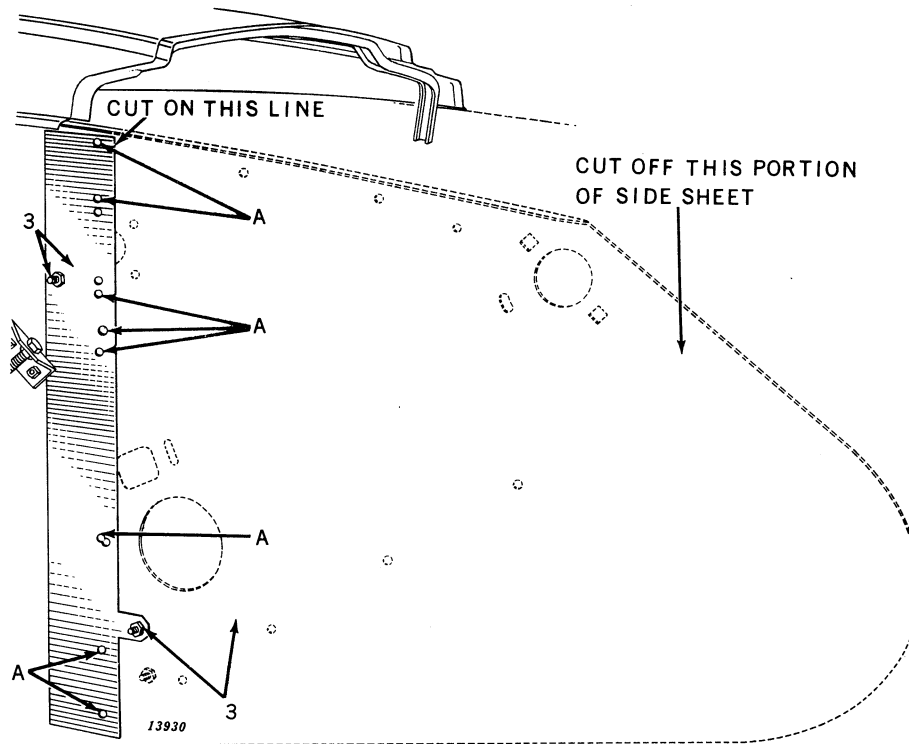

Figure 4
3. (Figure 4) Reverse template and attach to right hand separator side sheet as shown and drill holes "A" as indicated on template; cut off front portion of right hand side sheet.